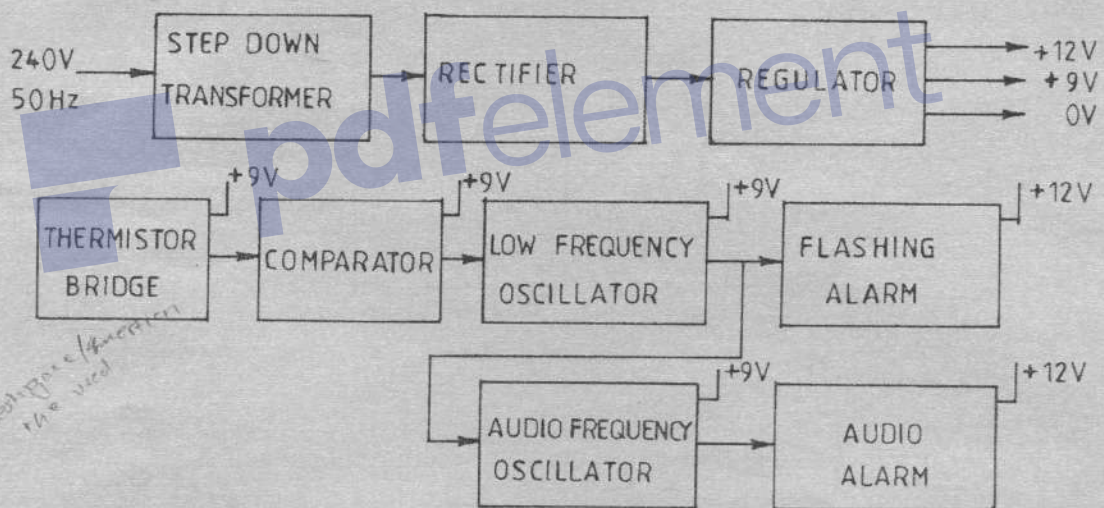

Fig. 3
- (c) Figure 3 shows a block diagram of an over-temperature alarm system. It is suspected that a fault has occurred in the power supply section such that there is no indication on the alarm outputs. Develop a fault location chart for the system. (6 marks)